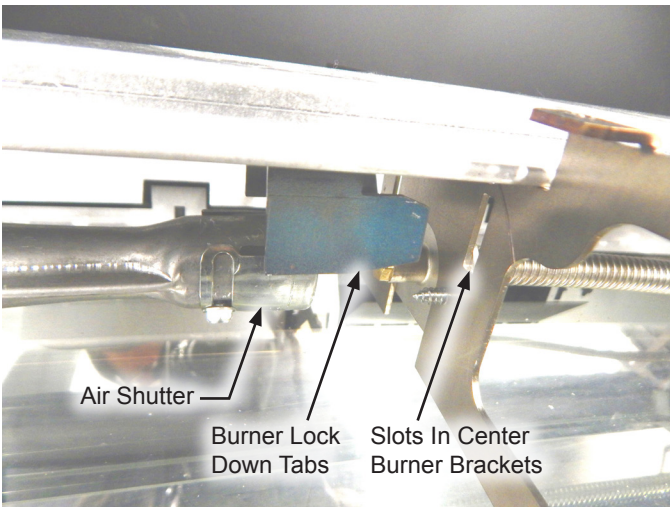

**Figure 3**
10. To change the burner orifice, remove (4) 5/16" Hex screws that secure the outside burner brackets. Each end bracket is secured with (2) screws. **See Figure 3** for the location of the front screw, and **Figure 4** for the location of the rear screw.